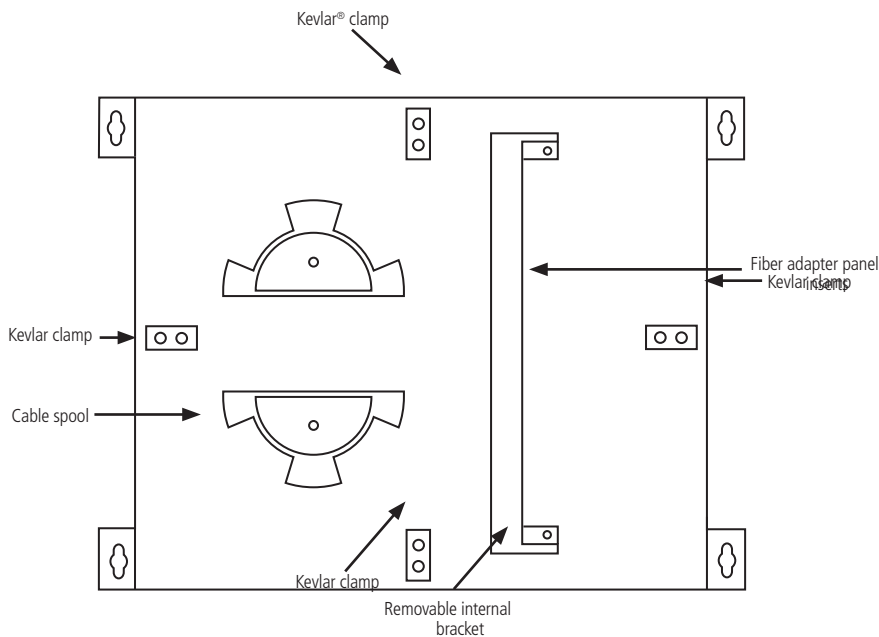

Figure 2. Inside the enclosure.
4. Open the enclosure's door and note the internal component locations. See Figure 2.